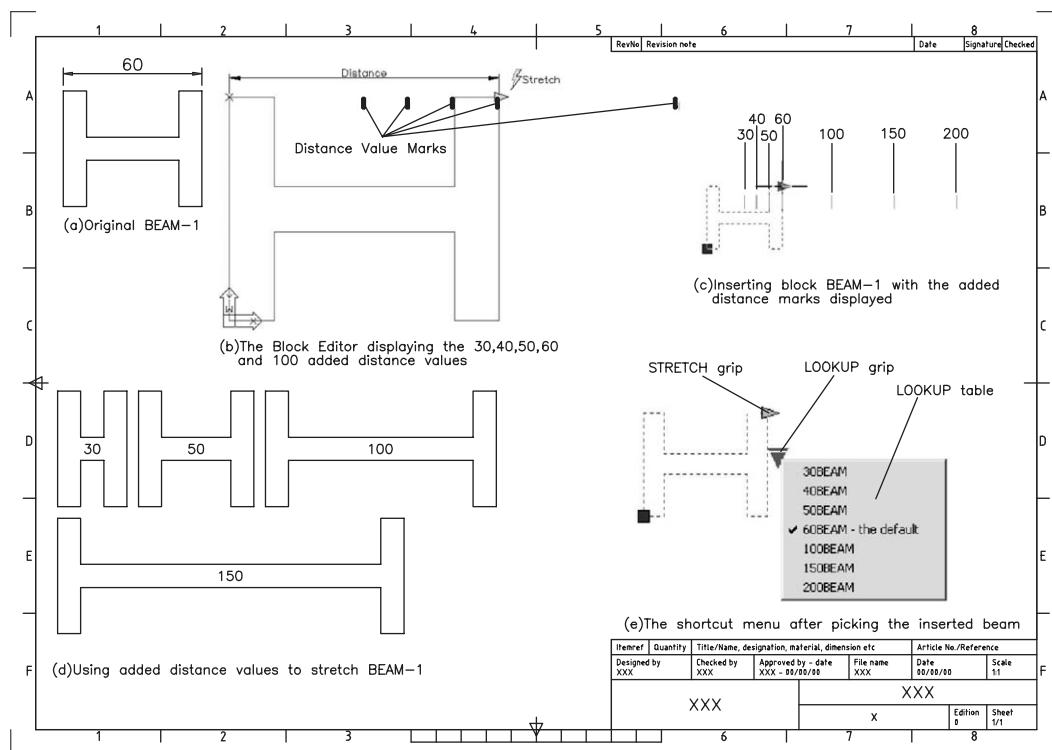

Figure 30.6 Dynamic block exercise, specifying sizes and creating a lookup table.
- 4 Close any existing drawing, open DYNE1 and refer to Figure 30.6.
and b) these are the entered distances relative to the stretch action – Figure 30.6(b)
prompt the added distance values displayed as Figure 30.6(c)
- d) Figure 30.6(d) displays four beam insertions using the specified sizes.
- 1 Continue from the previous exercise or open DYNEX3 and refer to Figure 30.6.
prompt shortcut menu with labels as Figure 30.6(e)